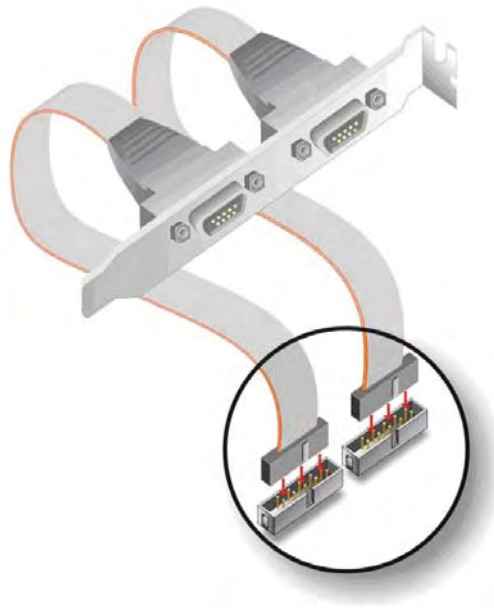

Figure 5-16: Dual RS-232 Cable Installation
- Step 2: Insert the cable connectors.** Insert one connector into each serial port box headers. See **Figure 5-16**. A key on the front of the cable connectors ensures the connector can only be installed in one direction.